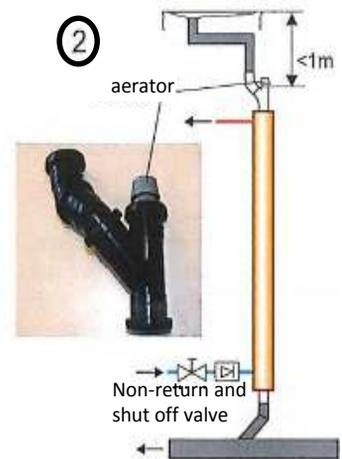

fig. 5
2. By using an aerator. The aerator must be mounted vertically above the heat exchanger and may not be placed lower than 1 meter below the top of the shower place. The aerator can be placed on the rotator by replacing the 45 degrees bend for a T-connector (see fig. 5).